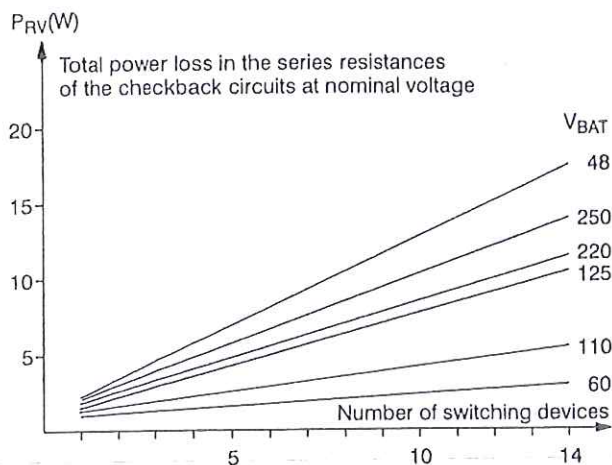

Fig. 4.1
- power loss in the series resistances of the checkback circuits (Figs. 4.1 and 4.2)